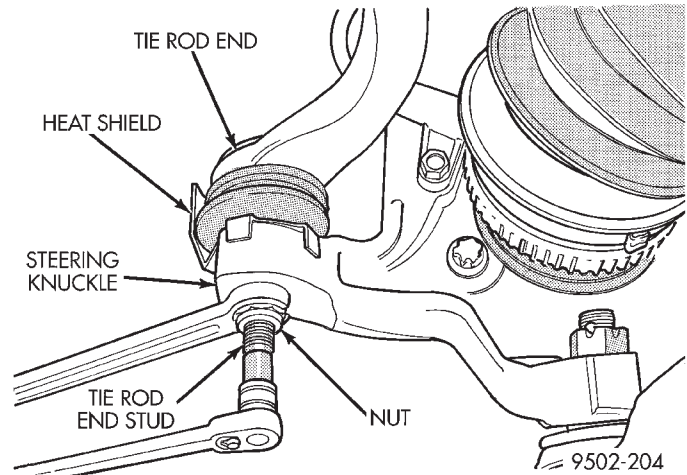
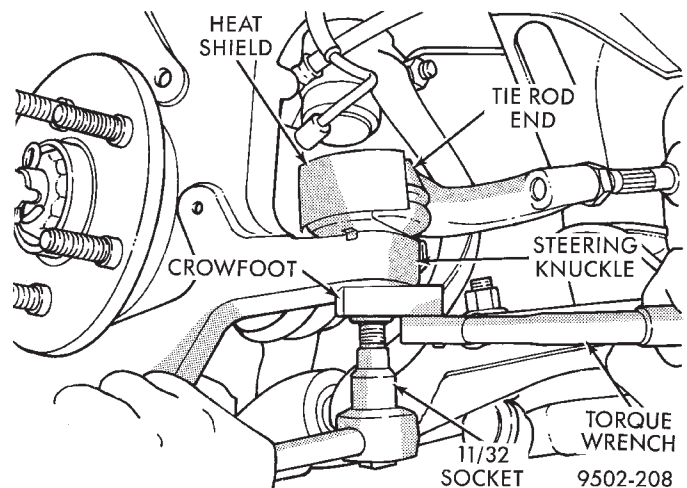
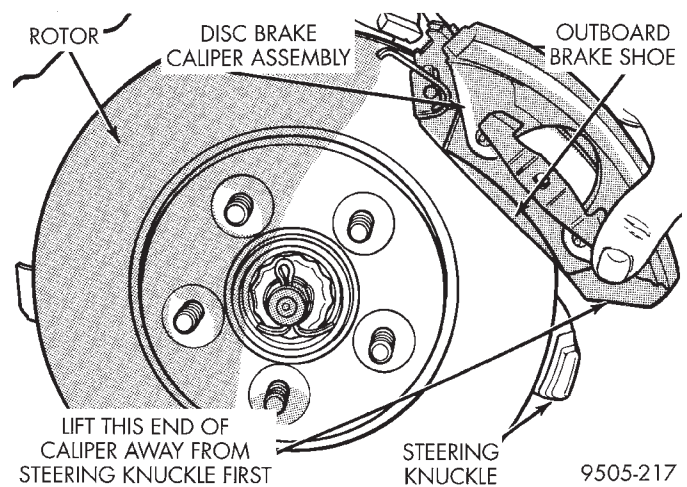

Fig. 18 Installing Tie Rod End Nut
Fig. 19 Torquing Tie Rod End Nut
Fig. 20 Disc Brake Caliper Assembly Installation
(9) Install tie rod end into the steering knuckle. Start tie rod end to steering knuckle nut onto stud of tie rod end. While holding stud of tie rod end stationary (Fig. 18), tighten tie rod end to steering knuckle nut. Using a crowfoot and 11/32 socket, tighten the nut to 61 N·m (45 ft. lbs.) (Fig. 19).
(10) Install braking disc back on hub and bearing assembly.
(11) Install disc brake caliper assembly on steering knuckle. Caliper is installed by first sliding top of caliper under top abutment on steering knuckle. Then installing bottom of caliper against bottom abutment of steering knuckle (Fig. 20).